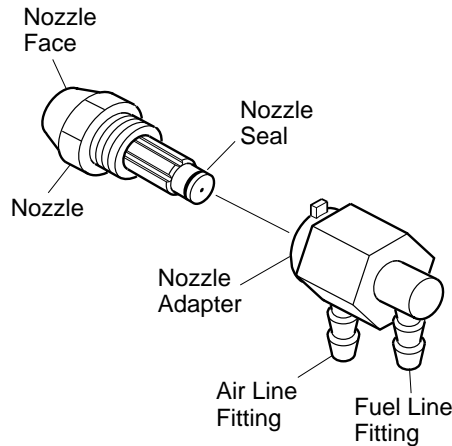

Figure 14 - Nozzle and Nozzle Adapter
6. Carefully remove nozzle from the nozzle adapter using 5/8" socket wrench (see Figure 14).